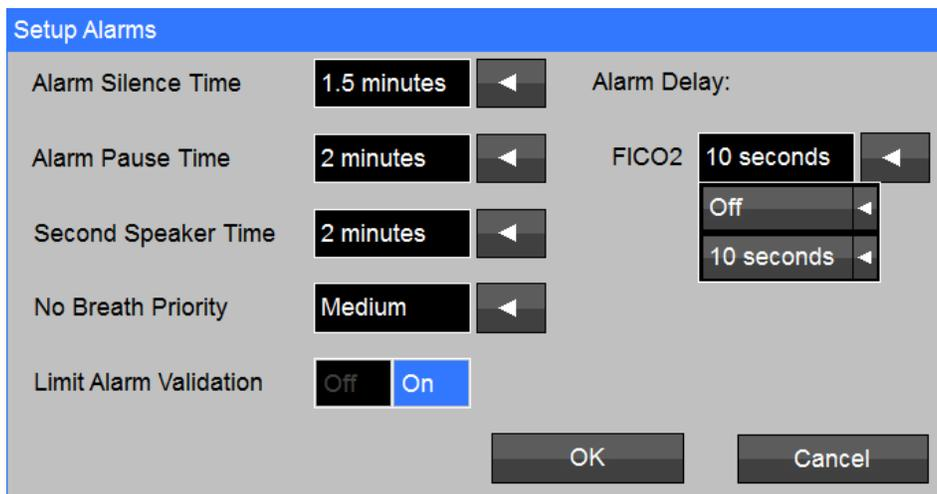

Figure 32: Setup Alarms - FICO2 Alarm Delay
- 4) Adjust the **FICO2 Delay** to the desired selection (Refer to Figure 32).